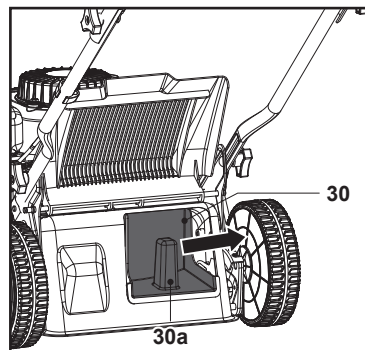

Fig. 15
2. Pull the mulching insert handle (30a) and release the two locking latches (30b) from the rear discharge chute slots (28a), then remove the mulching insert (30) (Fig. 15).